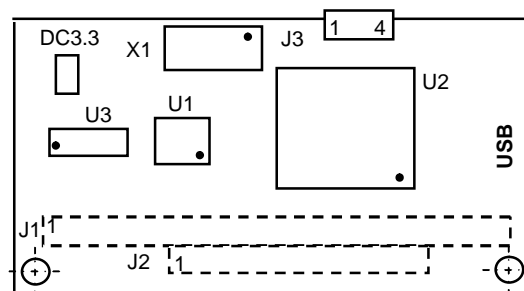

Figure A.6 – Arrangement of USB Card Elements
Note – Connectors marked with the (*) symbol and with a dotted line in figure A.6 are mounted on the reverse side of the NC201-28 card.
10.1.6.1 Arrangement of the elements of the **USB** card NC201-29 is shown in Figure A.6.